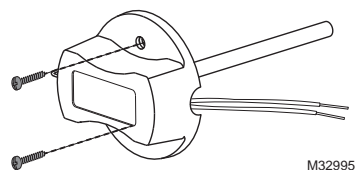

Fig. 13. Mounting Discharge/Return Air Sensor.
2. Drill 1/4-inch hole for the sensor probe and mount it to the ductwork with enclosed screws (see Fig. 13).